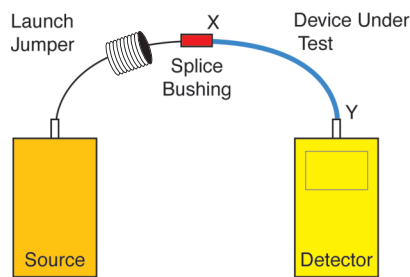

Figure 2
- The test launch jumper is disconnected from the detector and connected to connector end “X” of the device under test via a splice bushing. Connector end “Y” of the device under test is connected to the detector. See Figure 2. The detector displays dB loss which represents optical power loss at the “X” connection (due to misalignment, concentricity, angularity, etc.) plus the loss due to attenuation through the length of fiber in the device under test.
#### Single Ended Method See Figure 2 on page 5.